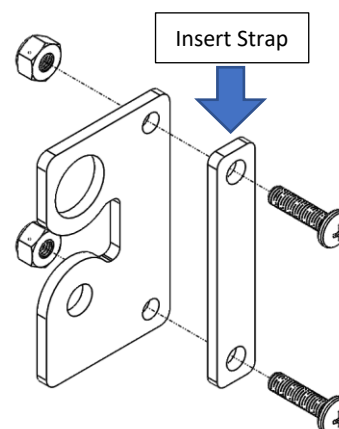

Figure 10: Strap Clamp Assembly
26. Install the door strap onto the hard stop bracket using the strap clamp to secure it. Feed the strap clamp through the limiting strap and bolt it to the hard stop bracket. Direct the strap towards the lower hinge when tightening down the clamp. Reference Figure 10 and 11.